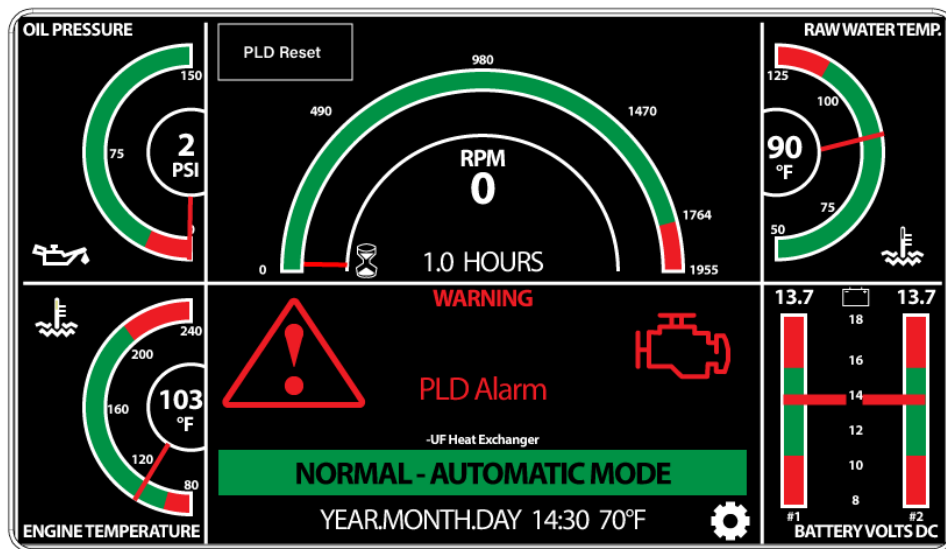

Figure 5-2
5.5.1.2. **PLD Failure Alarm Reset** - Investigate the cause of the PLD failure and make necessary corrections. Press the PLD reset button on the display above the tachometer. (figure 5-2)